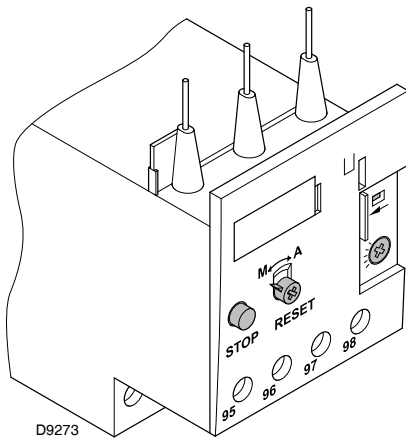

Fig. 35
The electro-mechanical thermal relay (Fig. 35) is used to avoid damage to the motor owing to a strong increase in absorption or the lack of a phase.
- To reset, in the case of an intervention of the thermal relay, press the button **"RESET"** (Fig. 35).
- The button **"STOP"** (Fig. 35) opens the NC (95-96) contact and stops the motor.